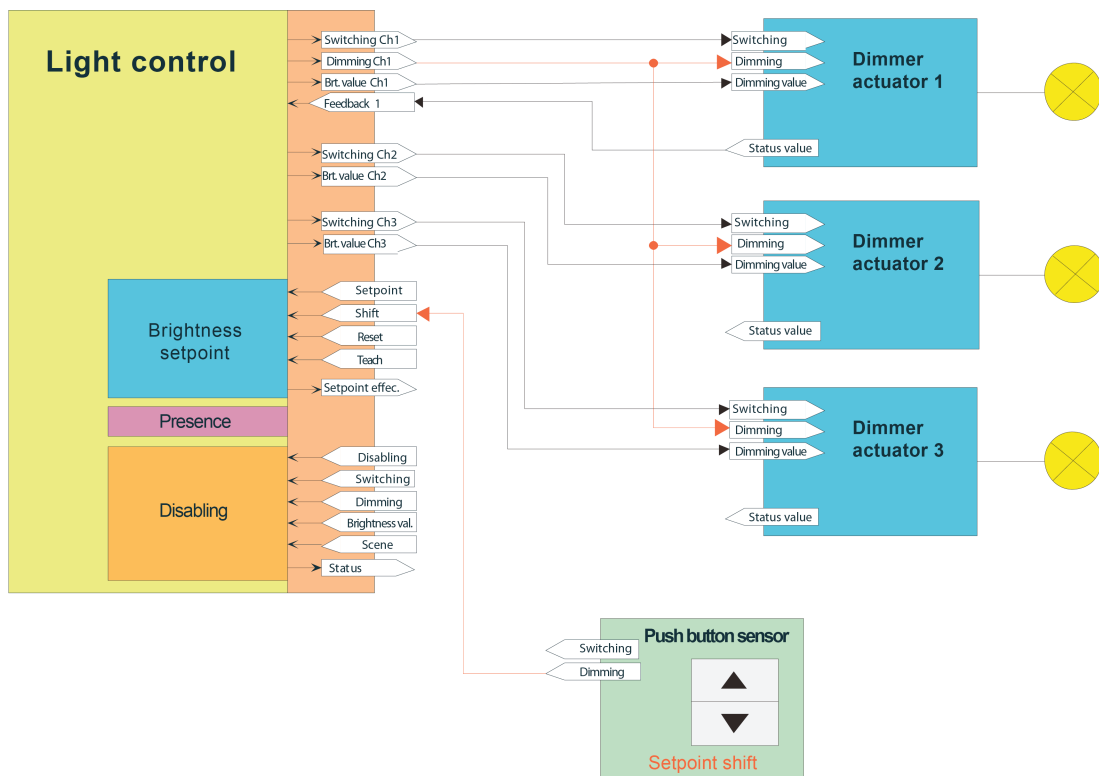

Figure 16: Application example for the setpoint shift with 3 lighting channels
- i** If the lighting channels 2 or 3 are also in use (Figure 16) during the light control, the 4-bit dimming objects of the dimmer actuators activated via these channels must be connected to the object "Output channel 1 dimming" of the light control (same group address as dimmer actuator in channel 1).